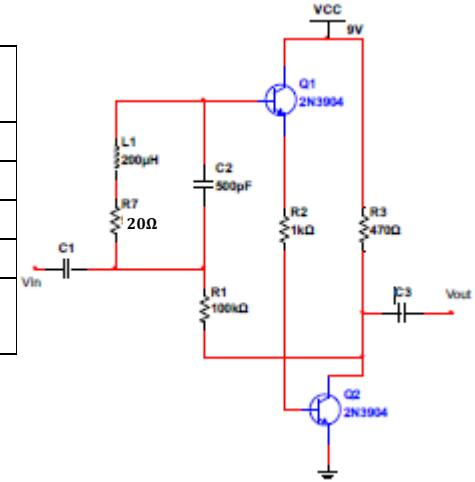

Figure 7: Receiving amplifier circuit.
2. Develop the active filter circuit with the antenna shown in Figure 7.
- b) Simulate the circuit in Figure 7 to verify the results you got from your calculations and add them to the same table. Take a screenshot for the simulation with the results of the DC simulations and add it below. Add
- d) Apply an AC signal to the input of the active filter in Figure 7, and Set the amplitude about 10 mV peak. Using AC analysis, plot the small signal gain of the circuit. Add your simulated results plot below and save your simulation file as "Proj-A-2d.ms14"
- f) Apply amplitude modulated signal to the input of the active filter in Figure 7 with carrier frequency of 500 kHz and modulating frequency of 5 kHz. Set the amplitude about 1mV peak. Plot the input and output
h) Observe and test the response of the detection circuit shown in Figure 8. Connect the circuit shown in Figure 8 at the output of the active filter circuit shown in Figure 7. Observe the detected signal in an oscilloscope. Plot the input and output waveform in an oscilloscope. Add your simulated results plot below and save your simulation file as “Proj-A-2h.ms14”.